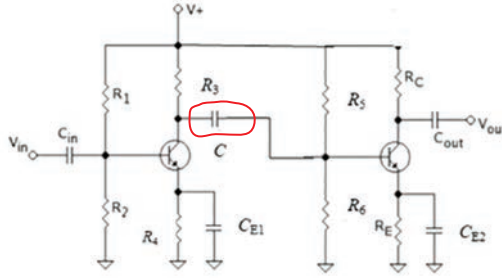

Figure 6.39 Coupling capacitor
Example: For the BJT two-stage amplifier (CE) of Figure 6.39, determine the total overall voltage gain A_{VT} , if R_1 is 20 k Ω , R_2 is 4.7 k Ω , R_3 is 3.5 k Ω , R_4 is 1 k Ω , R_5 is 18 k Ω , R_6 is 3 k Ω , R_7 is 4 k Ω , R_8 is 1 k Ω , R_L is 10 k Ω , V_{CC} is 12 V, β_{DC} is 150, and h_{fe} is 200 (for both BJTs). (Assuming two silicon BJTs.)